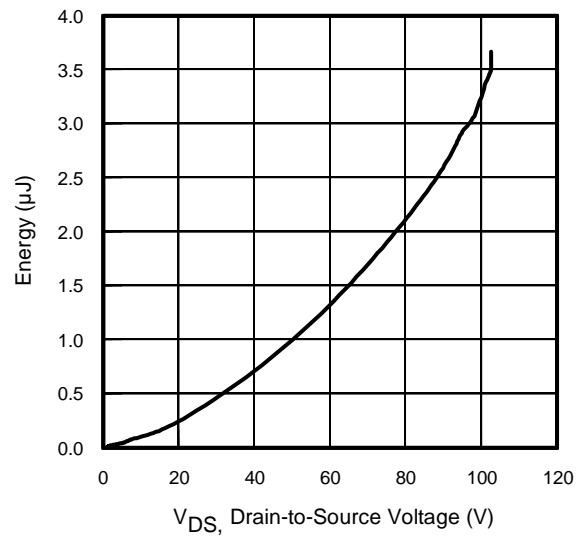

Fig 11. Typical C_{OSS} Stored Energy
| C _{oss} eff. (ER) | Effective Output Capacitance (Energy Related)Ⓣ | — | 650 | — | | V _{GS} = 0V, V _{DS} = 0V to 80V Ⓢ, See Fig.11 |